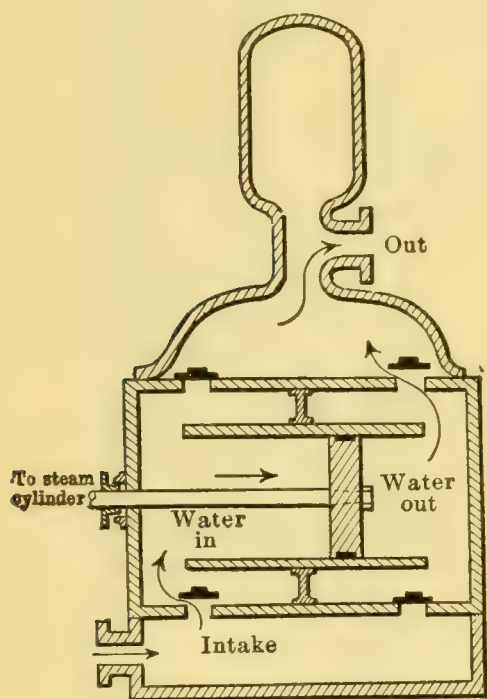

FIGURE 111.—WATER END OF STEAM PUMP.
73. Steam Pump.—A steam pump has two cylinders, one for water and one for steam (Figure 111). Each cylinder has a tightly fitting piston. These two pistons are connected by a piston rod. In the steam cylinder a set of valves admits the steam first on one side of the piston and then on the other. This alternating pressure of steam moves both pistons back and forth. When the water piston moves to the right, it leaves a partial vacuum behind it and water can enter through the inlet valve from a supply